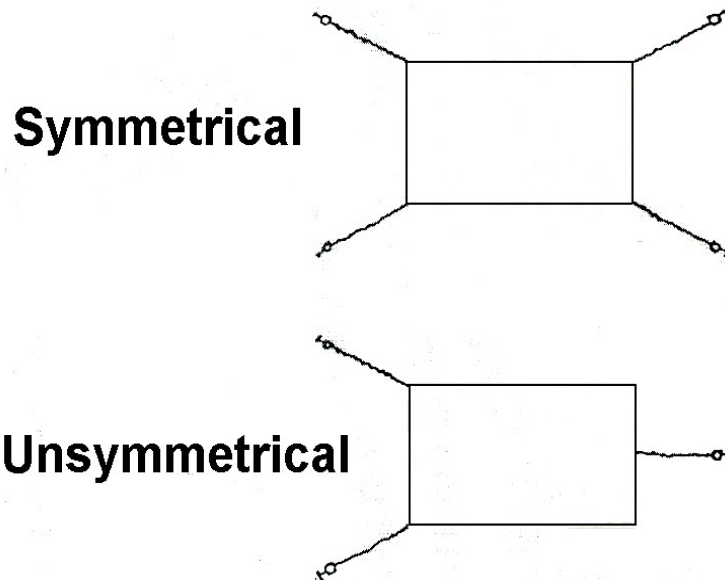

Figure 3-147
2. Direct the attachment of MB1 and MB2 tie-down devices in a symmetrical pattern and in pairs (see Figure 3-147).